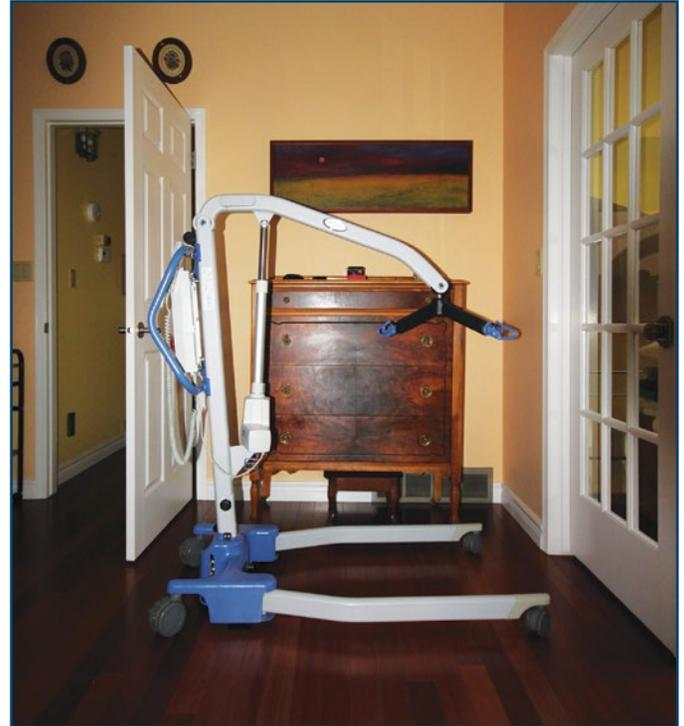

Figure 1: Wheeled hoist
- Wheeled hoists (see figure 1)
A **wheeled hoist** is a piece of freestanding equipment that supports the person being moved in a sling or harness suspended from a cantilevered arm. The sling is placed around the person while he or she is seated or lying down. The person is then hoisted up, the hoist is wheeled to the new location and the person is lowered (see figure 1).